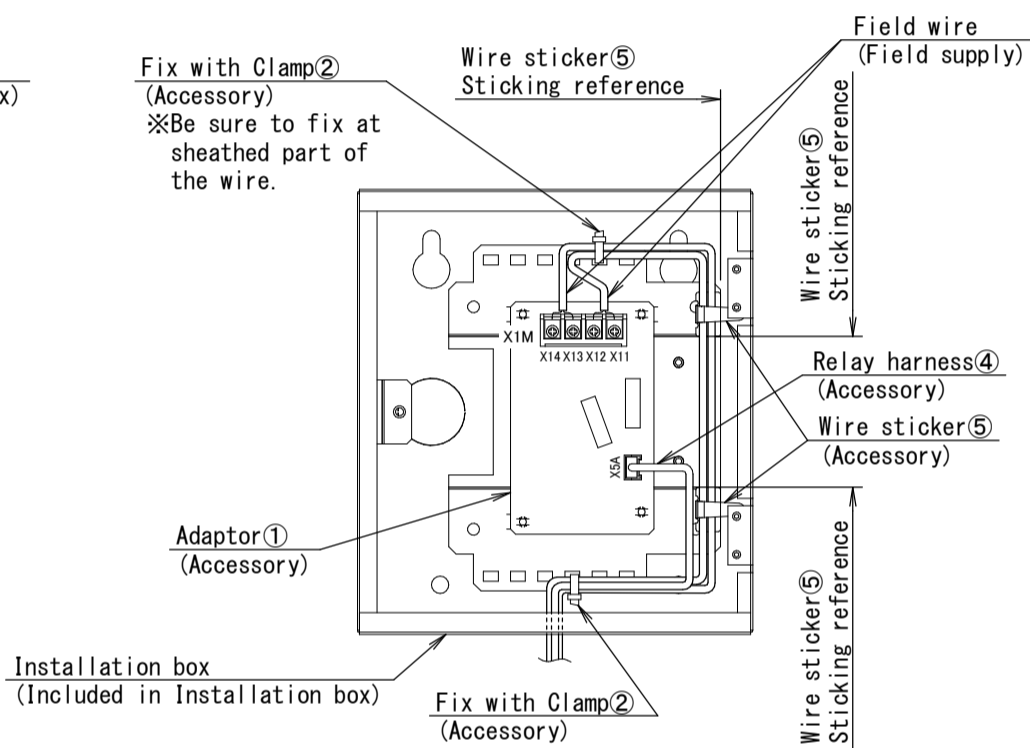

Figure 2
(3) Stick the Wire sticker⑤ on the Installation box. Pass the wires through the knockout hole and fix them with the Clamps②. (Figure 2)